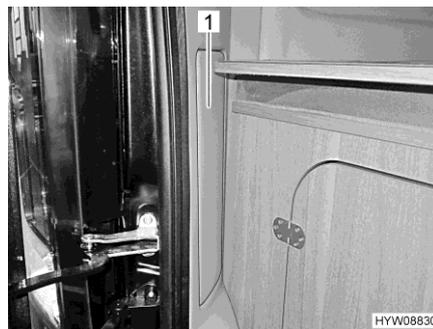

Fig. 117 Access to rear lights (Fiat)
- Remove the cover (Fig. 117,1). The cover is secured with velcro.